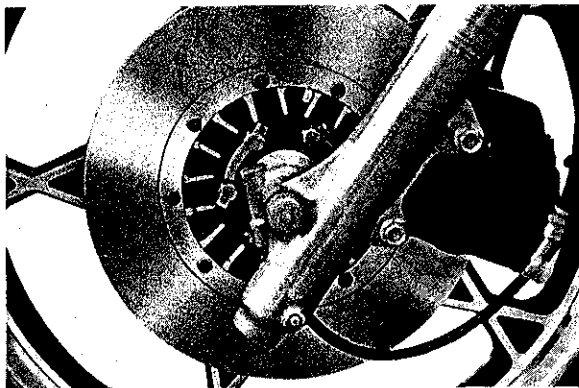

Fig. 14-20.
- Do not change the position of the speedometer gear box (see Fig. 14-20).